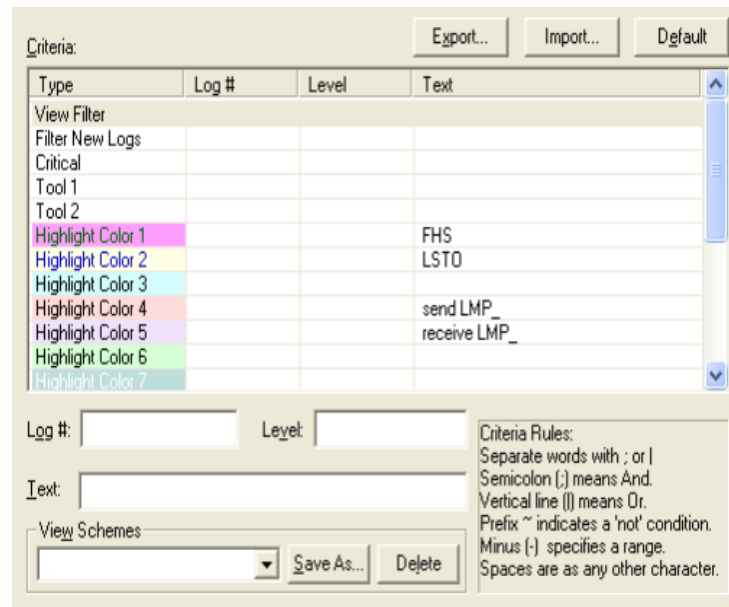

Figure 6. Criteria Dialog Box
4. Use criteria settings to differentiate between distinct logs. Figure 6 shows the Criteria dialog box.